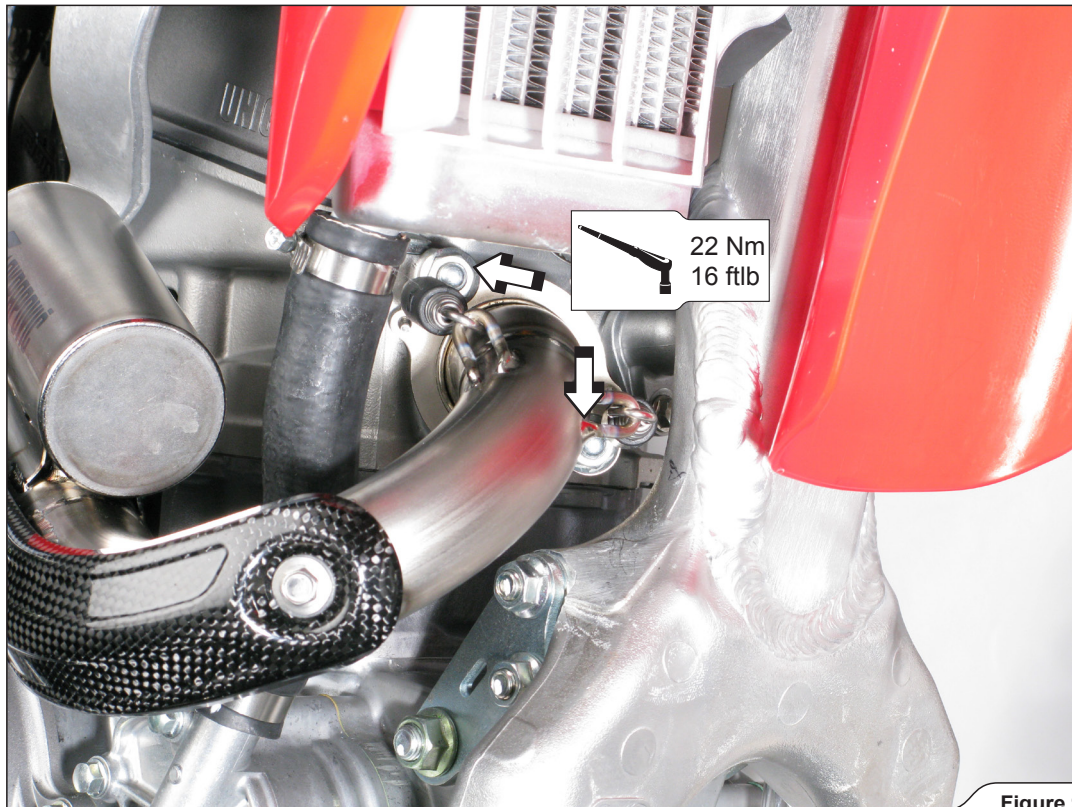

Figure 9
4. Insert the header tube into the sleeve, attach the springs and tighten the nuts to a specified torque (**Figure 9**).